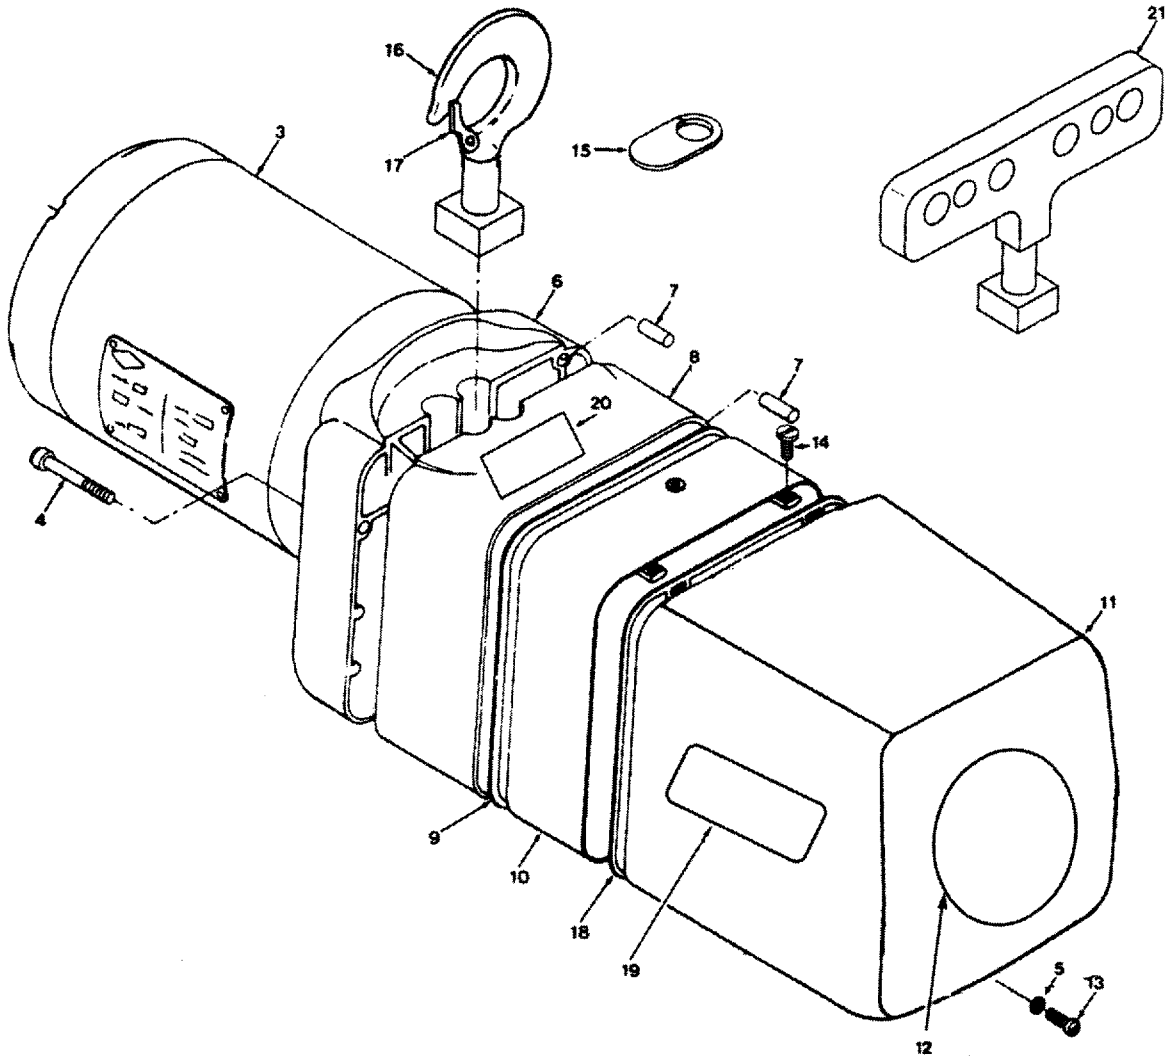

FIGURE 8-1. BASIC HOIST
Use illustrated parts lists Basic Hoist, Figure 8-1, and Transmission, Figure 8-5, to help in repairs on gearing. As disassembly is extensive for gearing, disconnect hoist and move to a work bench.
- a. Use illustrated parts list, Chaining Parts, Figure 8-6, and Basic Hoist, Figure 8-1, to help in repairs in this section. A chain can be replaced in both single and double-chained hoists without disassembling. (See Maintenance—Chain Replacement, paragraph 4-5, a). The hoist sections must be separated at the top hook line in order to inspect load sheave, chain guide and shedder. (See Maintenance—Chain Replacement with no chain in hoist, paragraph 4-5, b).